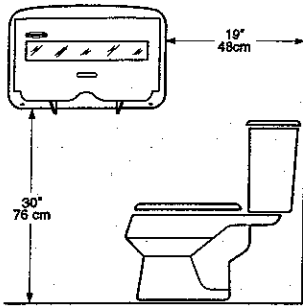

Figure 1
1. Locate the dispenser on the stall wall according to Figure 1. For a handicapped stall, locate according to Figure 2.